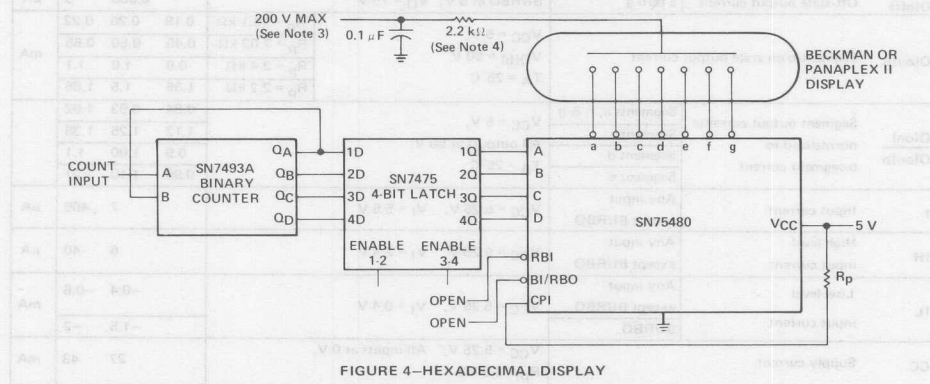

FIGURE 4—HEXADECIMAL DISPLAY
2. In all applications, peak transient segment current must be limited to 50 mA. This may be accomplished in d-c applications by connecting a 2.2 k Ω resistor from the anode supply filter capacitor to the display anode, or by current limiting the anode driver in multiplex applications (See Figure 4).